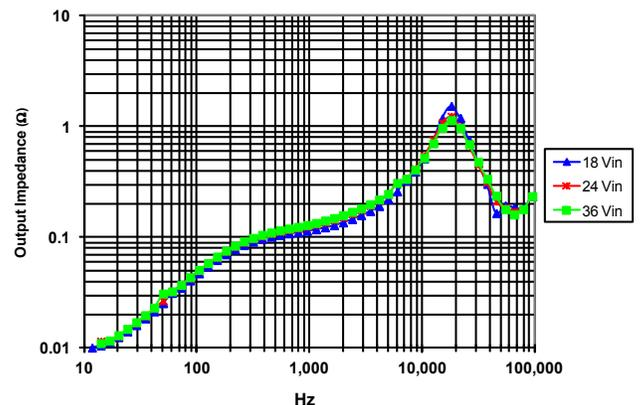

Figure 18: Magnitude of incremental output impedance ($Z_{out} = v_{out}/i_{out}$) for minimum, nominal, and maximum input voltage at full rated power.
- The **output current limit** protects both the converter and the board on which it is mounted against a short circuit condition. (see *Figure 18*)